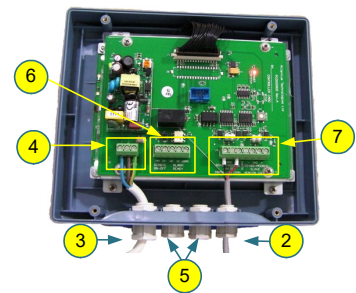
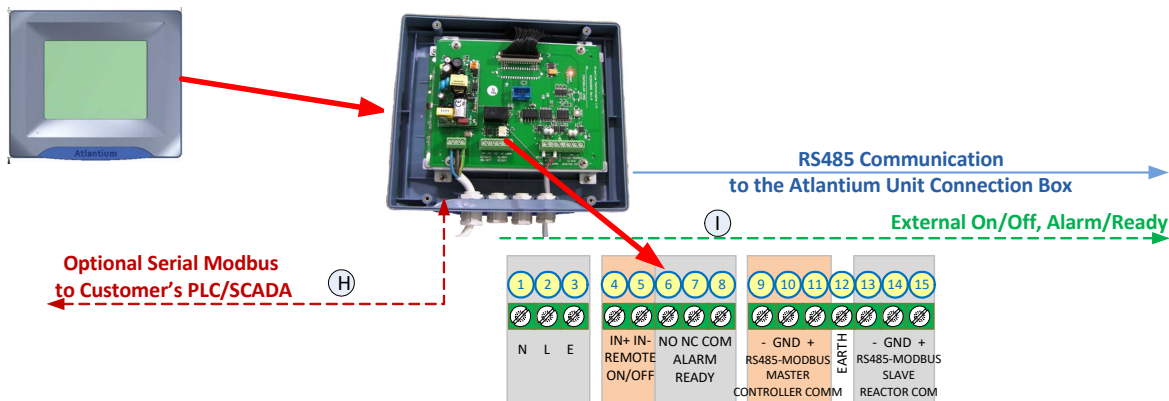

Figure 5-19: Control Module's Circuit Board
Figure 5-21: Control Module Terminal Connectors Schematic Drawing
Step 2. To connect an **External On/Off** signal, thread the signal cable through one of the holes with plastic glands on the bottom (5) and connect the wires to the appropriate connectors as show to the right (6) and as shown in **Figure 5-21** as terminals 4 and 5 (corresponding to 6 in **Figure 5-19**).
Step 3. To connect a.n **General Alarm** signal, thread the signal cable through one of the holes with plastic glands on the bottom (5) and connect the wires to the appropriate connectors as show to the right (6) and as shown in **Figure 5-21** us terminals 6, 7 and 8 (corresponding to 6 in **Figure 5-19**).
Step 4. To connect to an external facility control via Modbus, thread the signal cable through one of the holes with plastic glands on the bottom (5) and connect the wires to the appropriate connectors as show to the right (7) and as shown in **Figure 5-21** as terminals 12, 13, 14 and 15 (corresponding to 6 in **Figure 5-21**). For more information, see **Appendix A, Modbus Communication Protocol**. Add jumpers to any unused pins as shown in the diagram below.
- Unfasten the Data cable from the connectors as show to the above (7) as terminals 9, 10 and 11 (- GND +) (corresponding to 6 in **Figure 5-19**).
- Loosen the plastic nut of gland (2) and pull it through and out of the plastic gland at the bottom.
- Thread the longer Data cable through its plastic gland (2) and fasten it to the appropriate connectors mentioned above.
- Step 3.** Using the appropriate screwdriver, refasten the screws in the **Control Module (A in Figure 5-19)**.